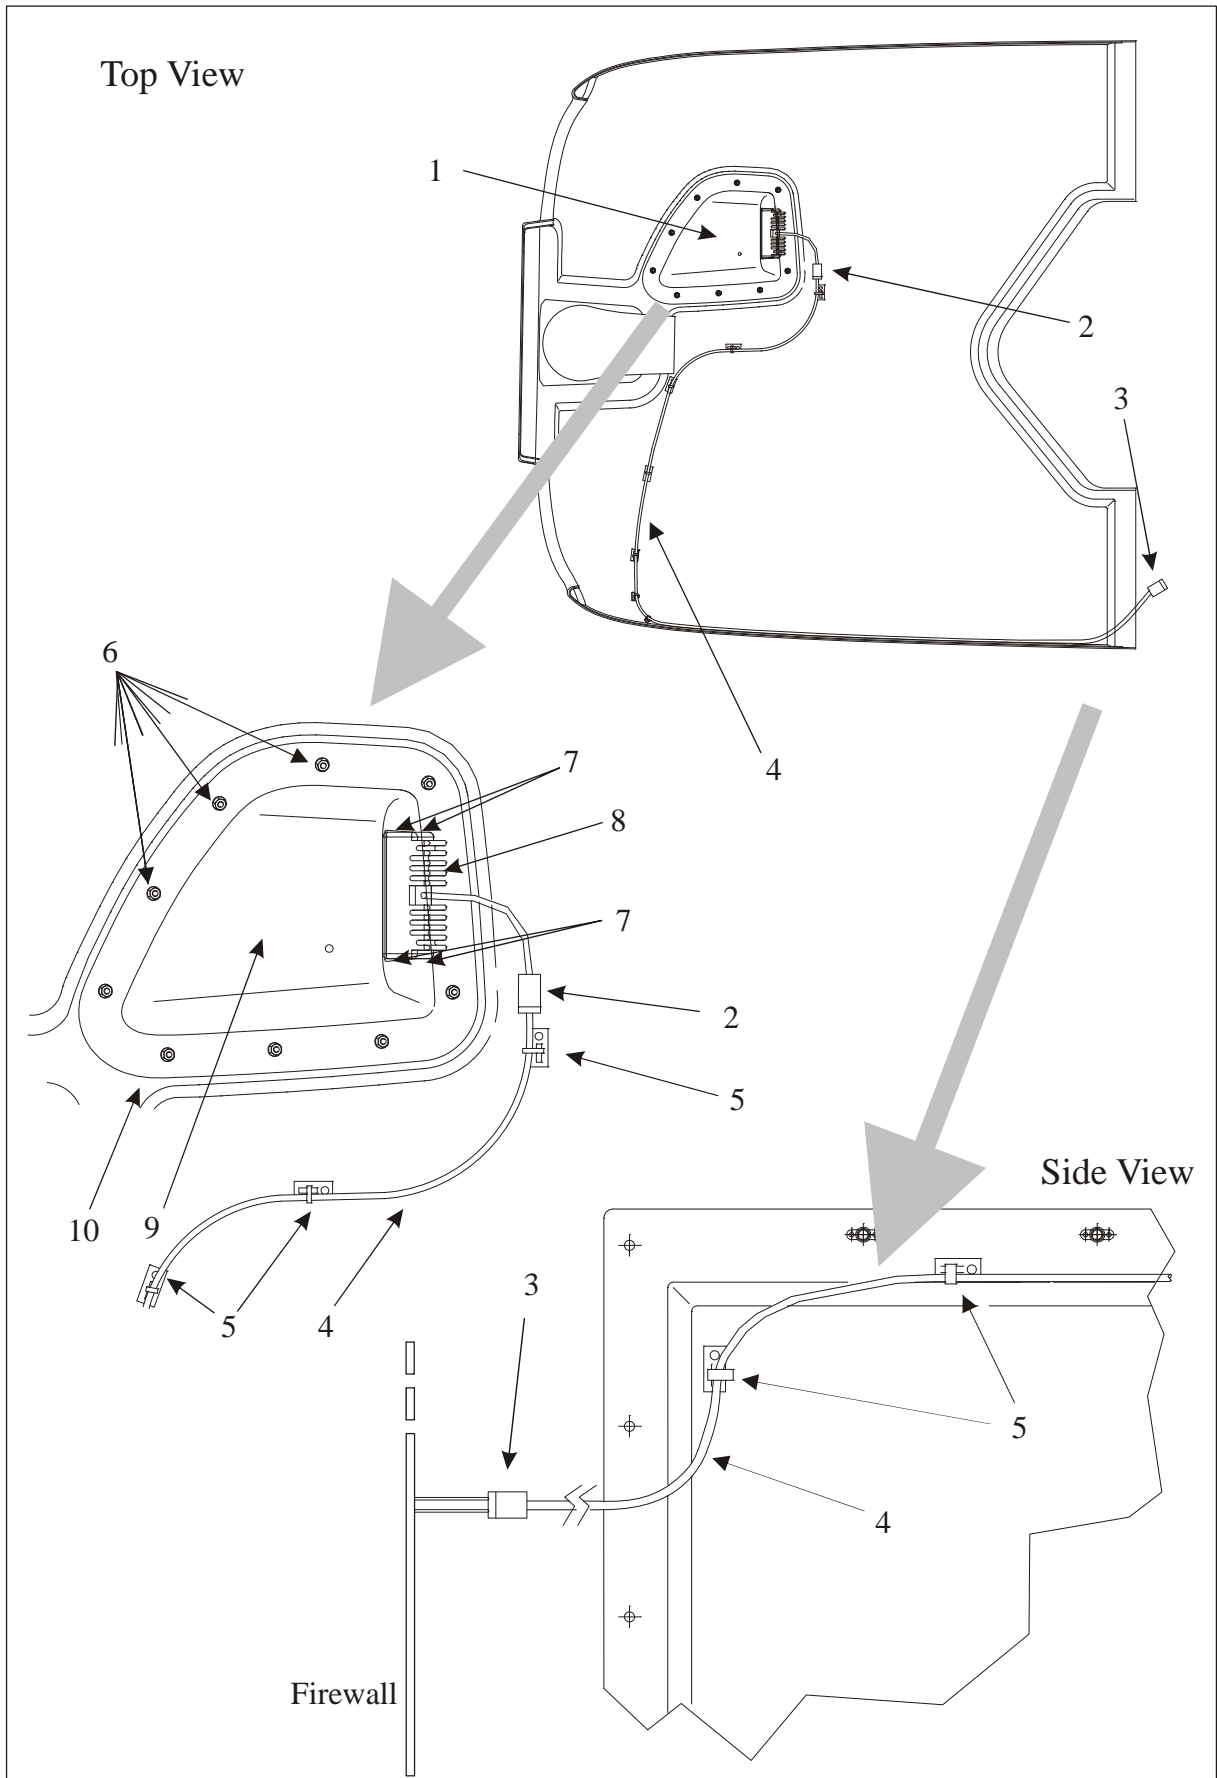

Figure 3
Refer to figure 3.
- 3 Disconnect the plug (2, figure 3) from the head lamp (8).
- 4 Remove the attachment bolts (6) and remove the hood (9) and the glass (10) which is located under the hood.
- 2 Remove the attachment bolts (7, figure 3).
- 3 Remove the head lamp (8) from the hood (9).